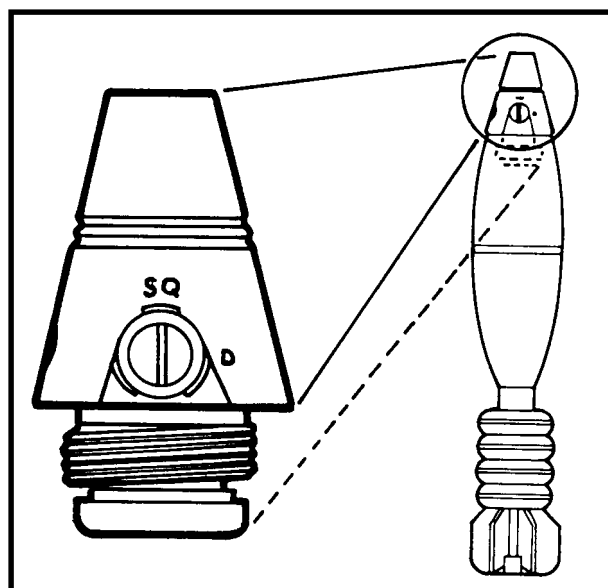

Figure 3-10. Point-detonating fuze, M935.
b. **Point-Detonating Fuze, M935.** This fuze for the M888 HE round can be set to function as superquick (SQ) or delay (D) (Figure 3-10). It has a standard pull-wire safety that is removed immediately before firing.